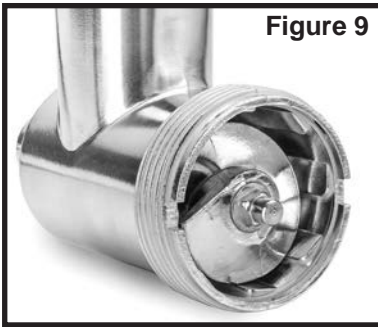

Figure 9
1. Insert the auger into the front part of the grinding head with the short end of the auger facing out (Figure 9). When you insert the auger, you may have to twist just a little until you feel it set into the motor housing.